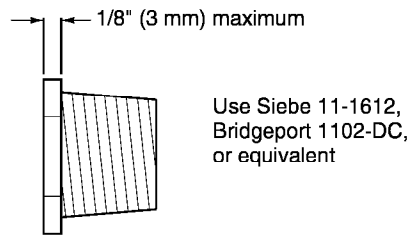
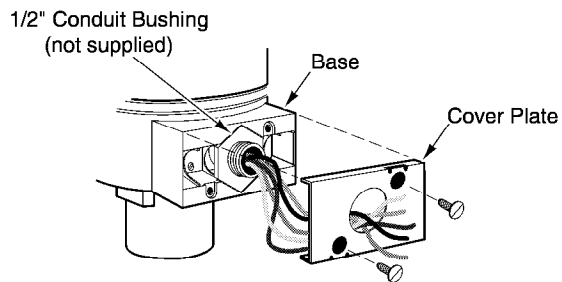

Figure-10 1/2" Conduit Bushing.
Figure-11 Conduit Bushing and Cover Plate Installation.
2. Slip the actuator's leads through a standard 1/2" conduit bushing (Figure-10, not supplied) and the knockout hole in the cover plate. Refer to Figure-11.
*Note:* As shown in Figure-11, the hole in the actuator's cover plate is also sized to accept both British standard M20 (20 mm) conduit connectors and 20 mm-to-PG16 adaptors for use with DIN PG16 connectors. (Follow the steps for installing the conduit box to the actuator.)